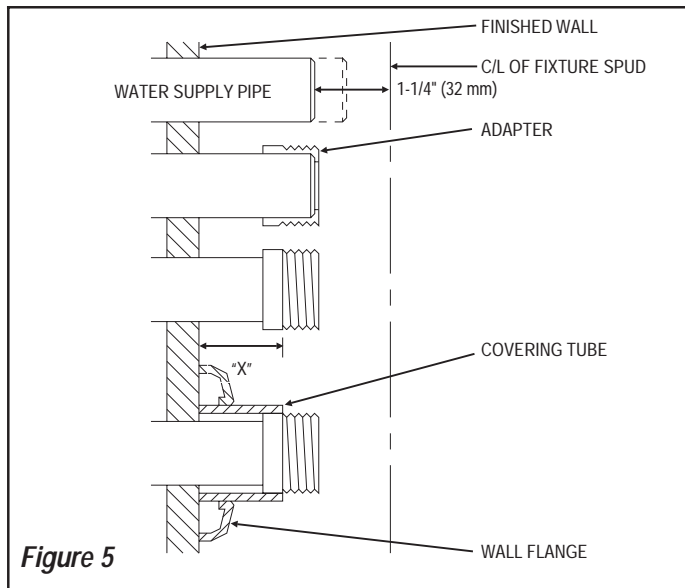

Figure 5
For Sweat Solder applications, refer to the following instructions and Figure 5:
- Determine length of Covering Tube by measuring distance from finished wall to the first thread of Adapter (dimension "X" in Figure 5). Cut Covering Tube to this length.